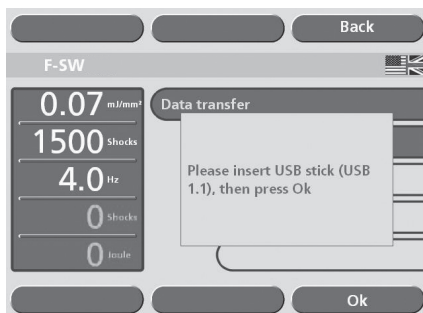

Fig.3-23 Data export
- Connect the memory stick to the USB port as soon as you are prompted to do so (Fig.3-23) and confirm by touching "OK".
- Connect the memory stick to the USB connector as soon as you are prompted to do so (Fig.3-23) and confirm by touching “OK”.
- Connect the memory stick with the backup file to the USB port as soon as you are prompted to do so (Fig.3-23) and confirm by touching “OK”.